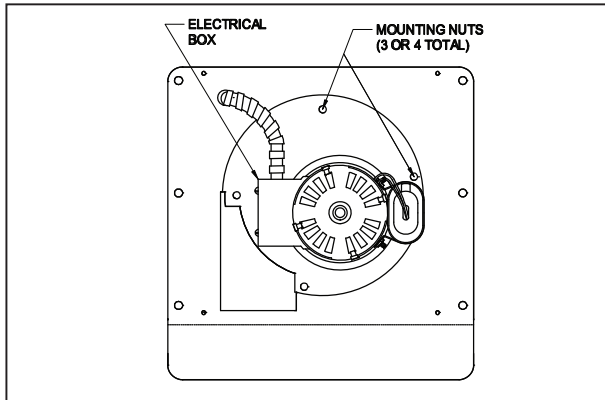

Figure 13
2. Open the electrical box on the motor and disconnect the conduit and wires from the motor. (See Figure 13)